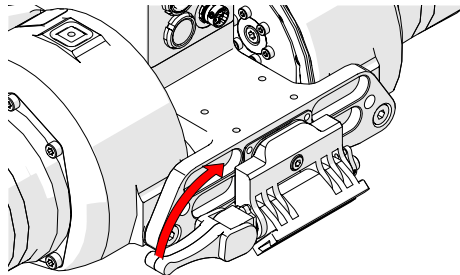

Fig. 50 - Secure with lever
3. Secure the pivot mount by raising the lever (Fig. 50).